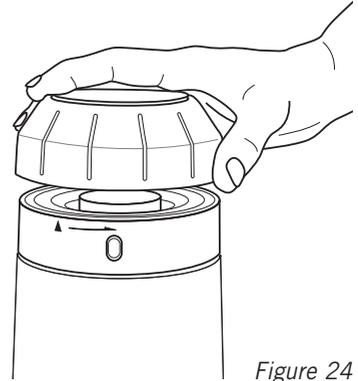

Figure 24
5. Release the 'UNLOCK' button, slightly pull up the grind adjustment collar away from the motor base and turn anti-clockwise until it detaches from the motor base. See figure 24.
7. Once both burrs are cleaned, return the grind adjustment collar to its position in the motor base. The arrow on the grind adjustment collar is aligned with the 'ALIGN' arrow on the motor base. Turn clockwise until the arrow on the grind adjustment collar is aligned with 'UNLOCK' Δ arrow and the 'UNLOCK' button pops out. See figure 24.